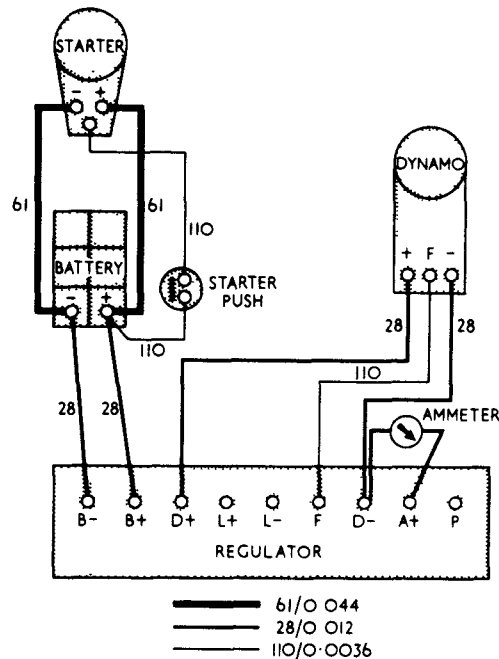

Fig. 10 Wiring diagram and wire chart.
32. All standard engines can be fitted with 12 volt electric starting equipment, though not all engines are so fitted. The equipment normally consists of a lead-acid battery, starter motor, generator and a control panel which may be mounted on or remote from the engine. The wiring diagram shown in fig. 10 applies to standard engines; the equipment to which the engine is fitted may deviate from standard and the technician should refer to the appropriate publication for the applicable circuit.